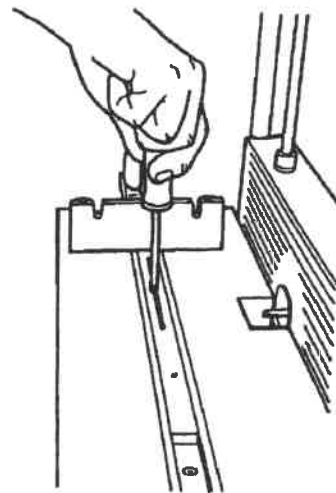

Fig. B-15
19. Insert a Phillips screwdriver through the empty screw hole. See Fig. B-15.
20. To adjust the tension of the T-slot extrusion (4) on the miter gauge bar, do this: